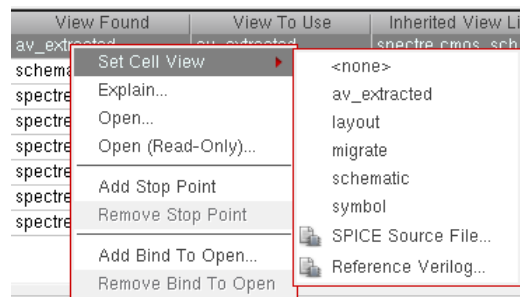

Figure 6.10: Changing the view of Inverter cell
- Right click on the Inverter cell and change the View Found to av\_extracted, as shown in Fig.6.10.